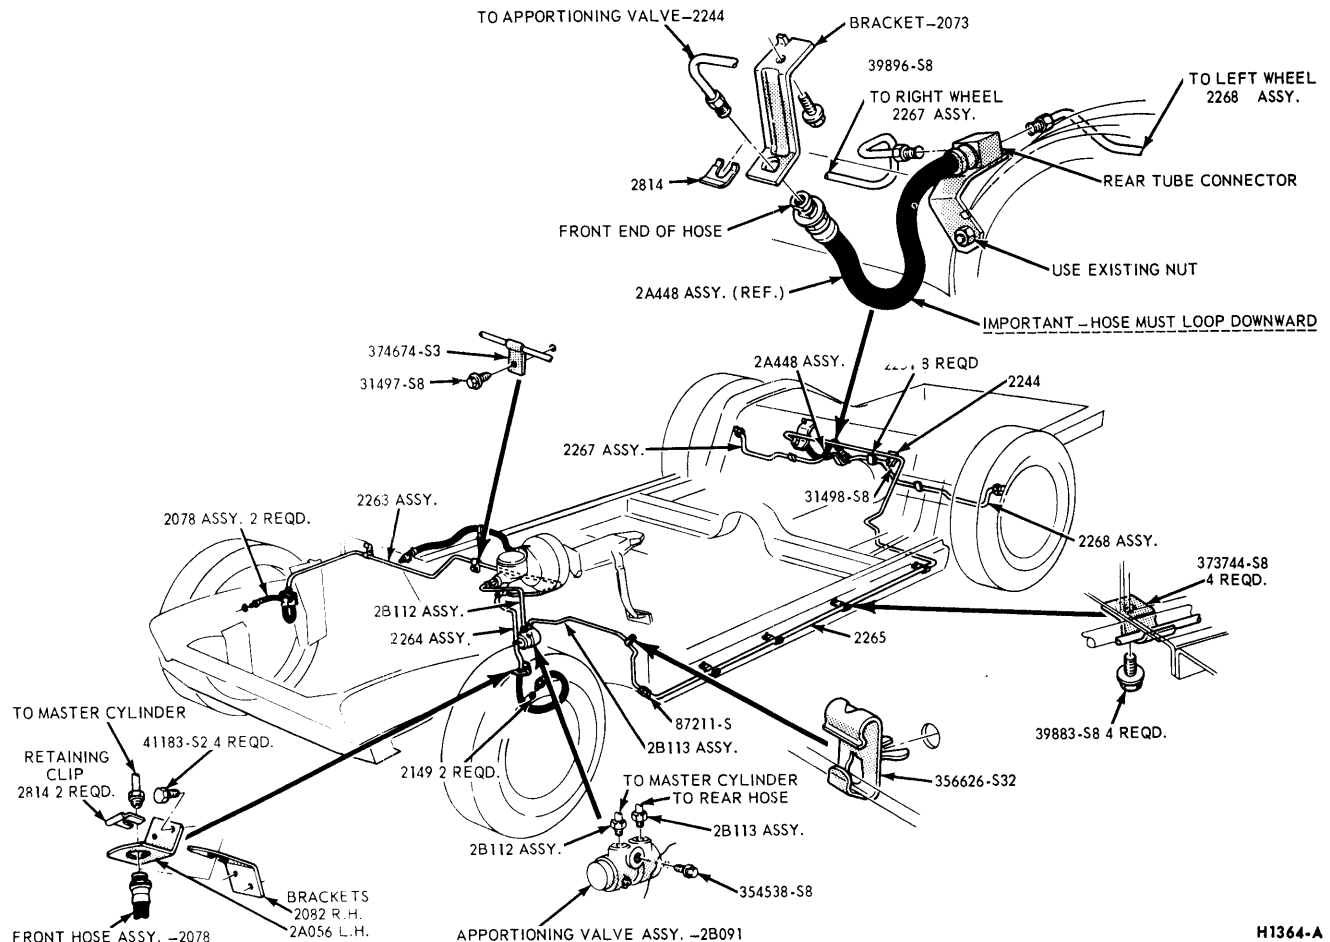

FIG. 20—Service Brake System
Steel tubing is used throughout the brake system with the exception of the flexible hoses at the front wheels and at the rear axle housing brake tube connector (Fig. 20).
clip, and connect the tube to the hose with the tube fitting nut. (Fig. 20).
1. Disconnect the brake lines from the outlet fittings (Fig. 20).
7. Connect the brake lines to the outlet fittings (Fig. 20).